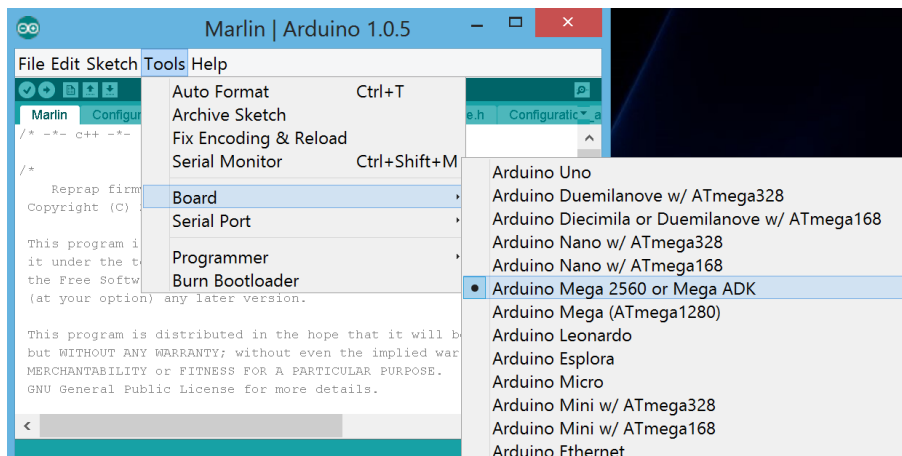

Figure 2.15: Select the board type of Artifex 2 electronics
- Select “Tools → Board → Arduino Mega 2560 or Mega ADK”. (Figure 2.15)